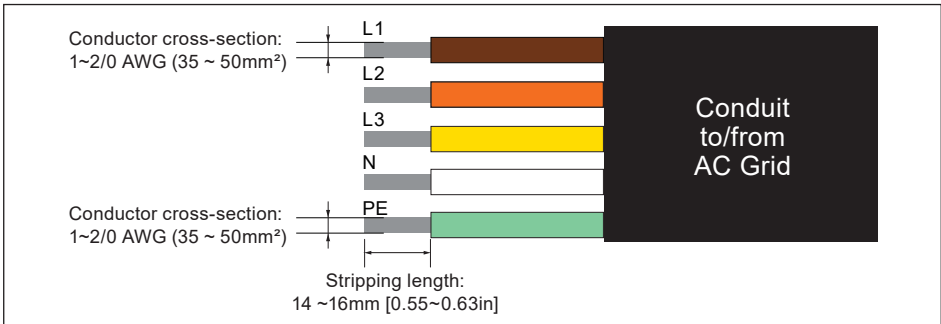

Figure 3-11: Stripping guide for AC conductors
- Ensure the AC conductors used are sized to the correct ampacity per NEC or other local code. Refer to **Figure 3-11**.
Ensure the AC conductors used are sized to the correct ampacity per NEC or other local code. Refer to **Figure 3-11**.
Refer to **Figure 3-11** in **Section 3.3** for the procedure to prepare AC conductors for connection to the AC terminals (M80/60U₁₂₁) :
Refer to **Figure 3-11** in **Section 3.3** for the procedure to prepare AC conductors for connection to the AC terminals (M80/60U_122) :